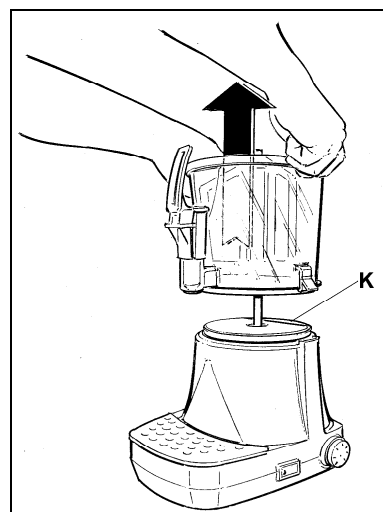

Fig. 14
- Anytime that you replace the grasp container on the plate, make sure that the probe (K) touches the bottom of the grasp container perfectly (see fig. 14).